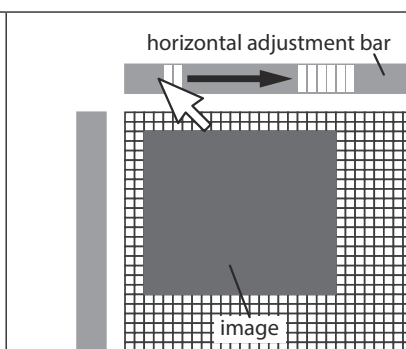

Fig. 98
3. To de-select the 'pixel zone' click and hold down on the left mouse button whilst moving the cursor right and the individual pixels will 'grey out' (de-select) one by one as the cursor continues to move back along the bar, as shown in **Fig.98**.